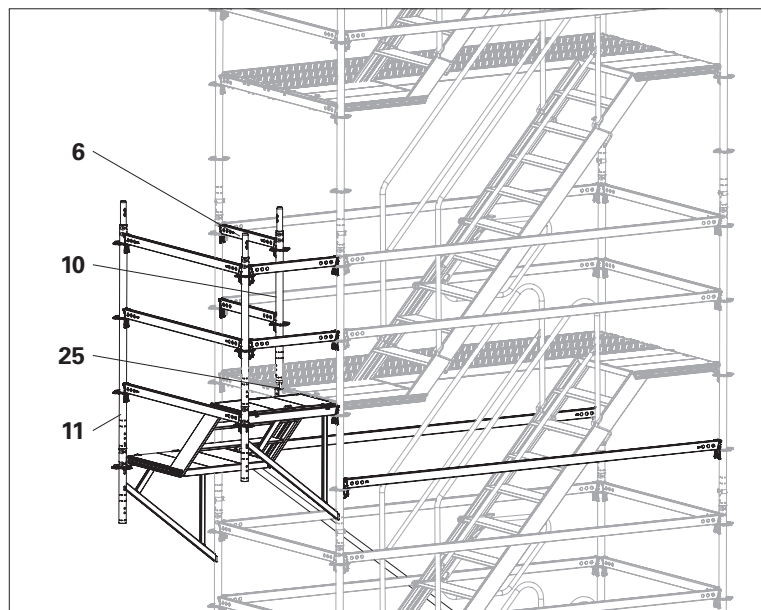

Fig. A7.05
3. Fit 2 x Horizontal Ledgers UH-2 75 (**6**) as lateral protection. (Fig. A7.05)